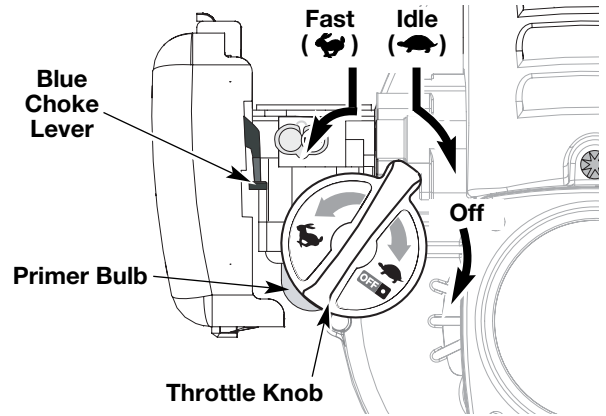
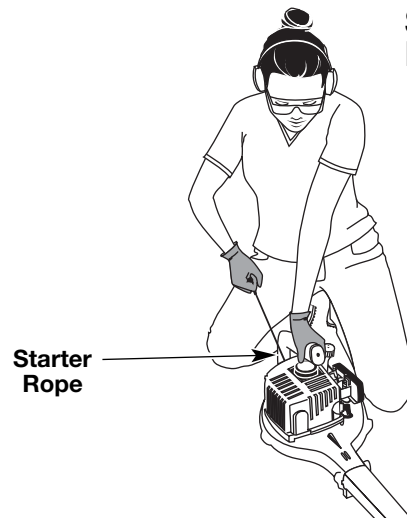

Fig. 2
Fig. 4
WARNING: Avoid accidental starting. Make sure you are in the starting position when pulling the starter rope (Fig. 4). To avoid serious injury, the operator and unit must be in a stable position while starting.
2. Fully press and release the primer bulb 10 times, slowly. Some amount of **fuel should be visible in the primer bulb** (Fig. 2) and fuel lines. If you can't see fuel in the bulb, press and release the bulb as many times as it takes before you can see fuel in it.
4. Place the unit in the starting position (Fig. 4). Move the throttle knob to the fast position (↗) (Fig. 2).
1. To turn off the blower, move the throttle knob all the way to the right, past the idle position (↘) until it clicks. Make sure you move the knob into the furthest right detent in order to turn the unit off (Fig. 2).